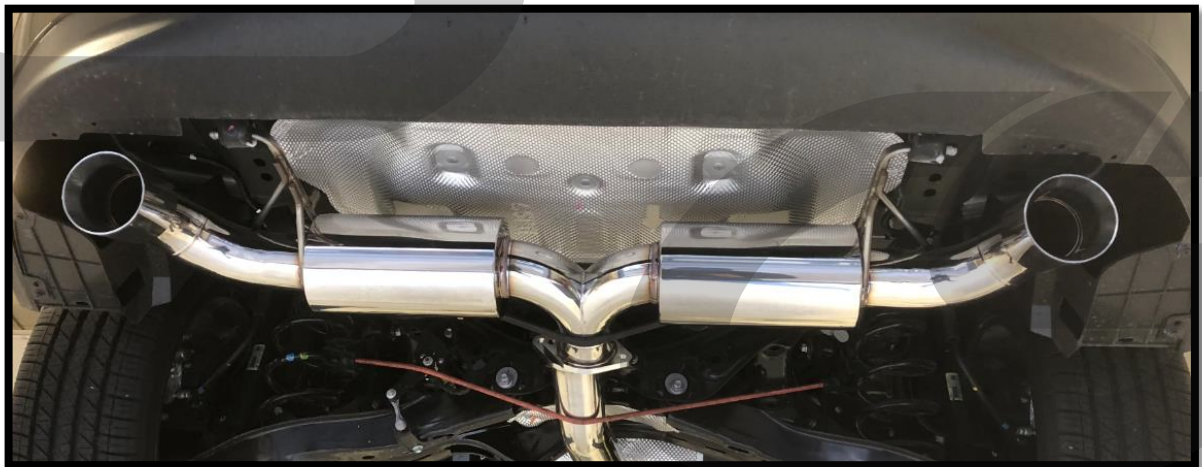

Figure 8b
b) Attach the CorkSport axle back section onto the CorkSport rear midpipe section. Use the supplied hardware & gaskets like shown in **Figure 5c** & **5d**. Only hand tighten for now. **Figure 8b** shows the axleback installed.